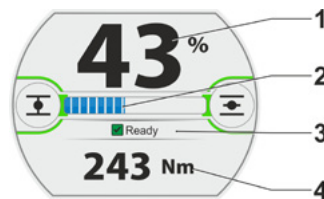

Fig. 4: „Position+Filling+Status“ standby screen
- 'Position+Bar+Status' (fig. 4):
- Position in percent (item 1)
- Position bar, visually indicates the opening percentage (item 2).
- Status of the actuator (item 3).
- If a torque measurement flange is available, the torque applied is indicated (item 4).